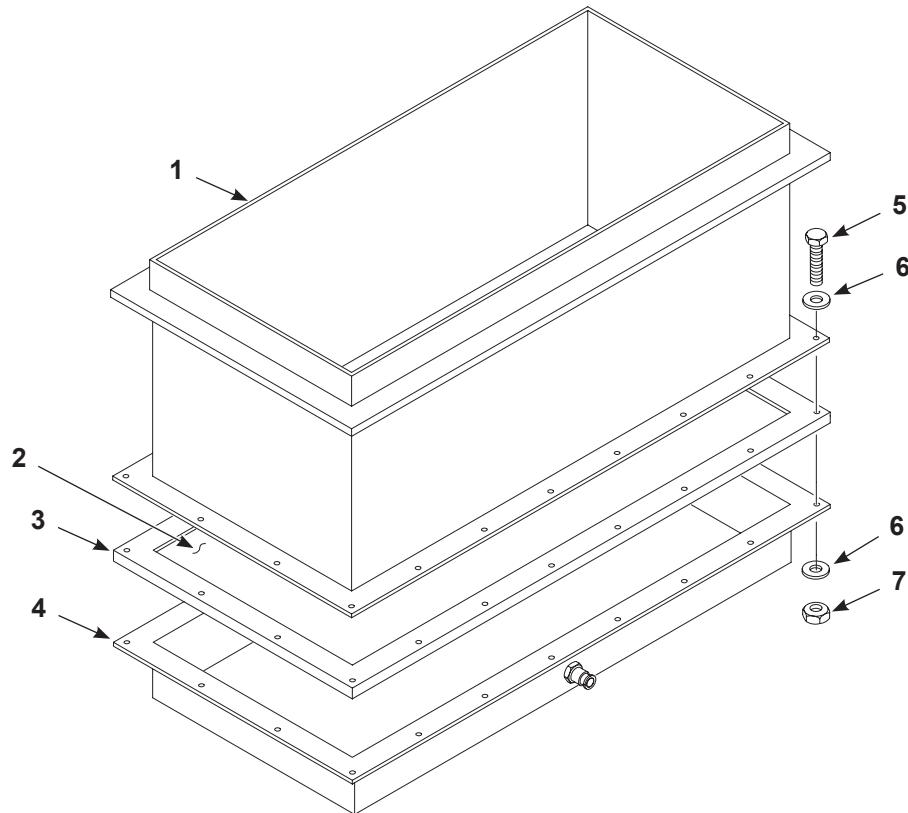

Figure 8-12 75-lb Feed Hopper Fluidizing Plate Replacement
2. See Figure 8-12. Remove the screws (5), flat washers (6), and nuts (7) securing the body (1) to the plenum (4). Lift the body off the plenum.
3. Remove and discard the old fluidizing plate (2) and U-gasket (3).